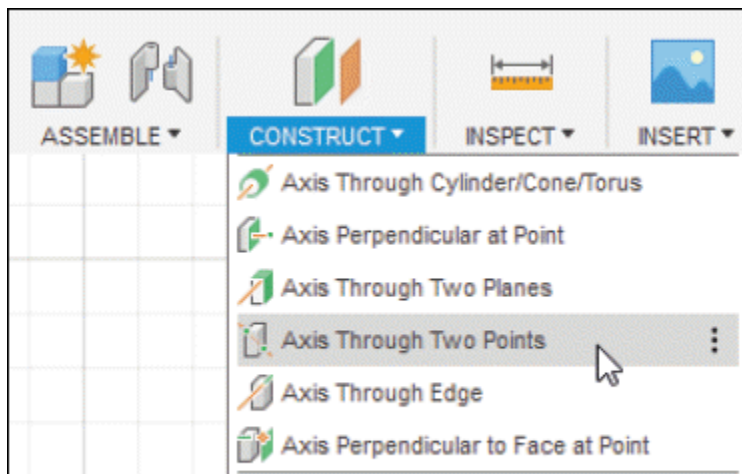
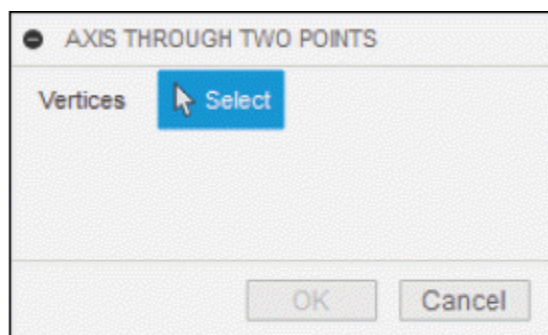

Figure-112. Axis Through Two Points tool
Figure-113. AXIS THROUGH TWO POINTS dialog box
- Click on the **Axis Through Two Points** tool of **CONSTRUCT** drop-down from **Toolbar**; refer to Figure-112. The tool will be activated and **AXIS THROUGH TWO POINTS** dialog box will be displayed; refer to Figure-113.